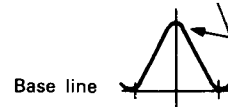

Fig. 12
4. Feed in a weak signal to C107 Body from the genescope. Adjust T201 for maximum gain and the waveform indicated in Fig.12. If the center of the waveform cannot be lined up on the marker, adjust the right/left balance.